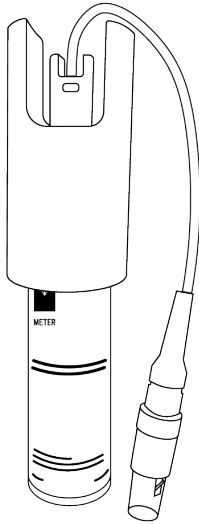

Figure 46 Glycerin vial with sensor inserted
5. Press the sensor through the glycerin vial septum (Figure 46).